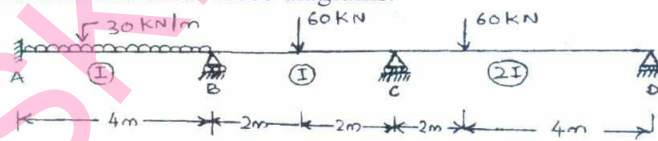

Fig.Q3
- 3 Analyze the continuous beam shown in Fig.Q3 by moment distribution method. Draw bending moment and shear force diagrams. (20 Marks)